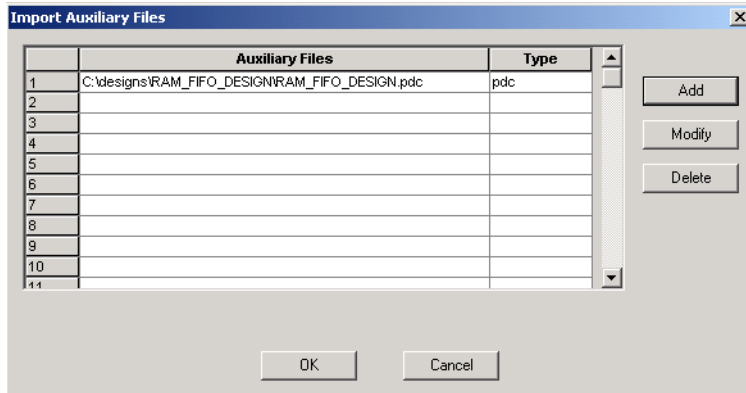

Figure 2-9. File Added to the Import Auxiliary Files Dialog
3. Select your file and click **Import**. The file is added to the **Import Auxiliary Files** dialog box, as shown in Figure 2-9.